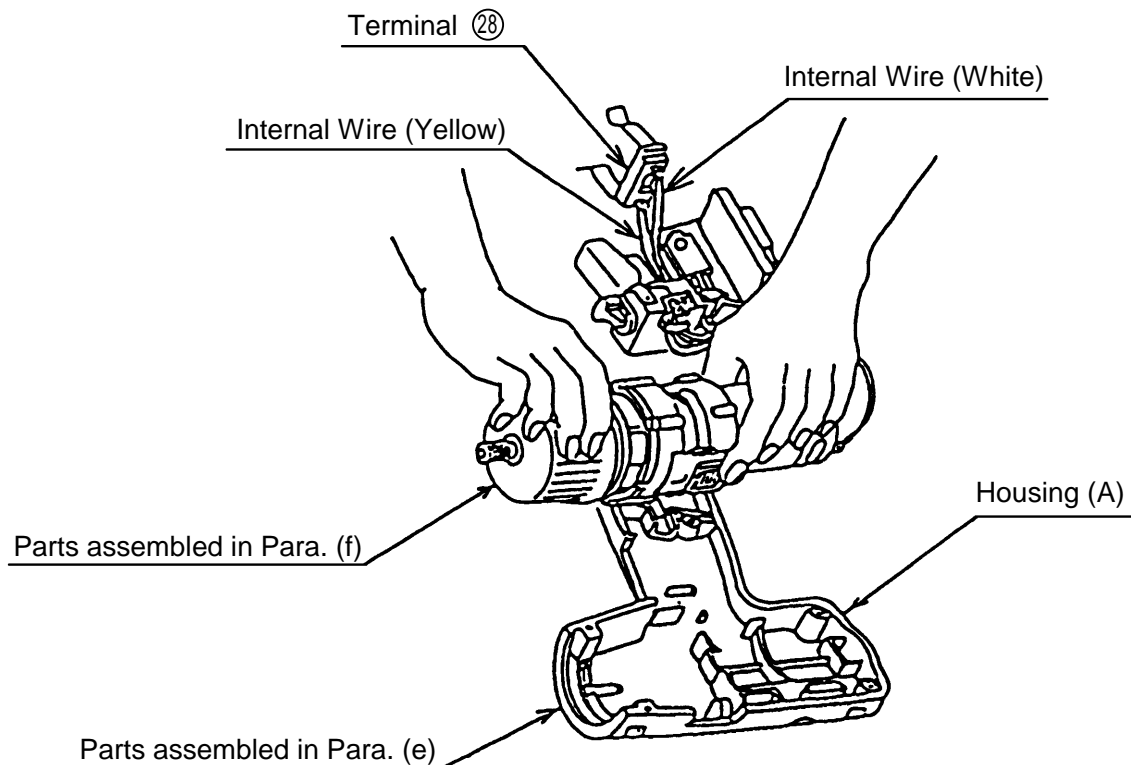

Fig. 10
- (g) Mount the components assembled as described in Para. (f) onto the components assembled as described in Para. (e). At this time, ensure that colored leadwires soldered to the Terminals ⑳ are properly aligned with relation to Housing (A) and Housing (B). (See Fig. 10)